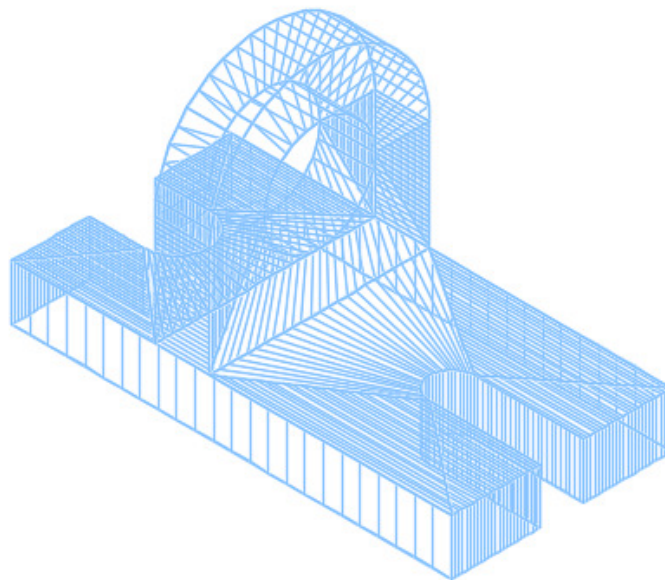

Figure Step 24
Step 24 Turn off all the layers except layer: Surface 1 and the model should appear as shown in the figure. (Figure Step 24)